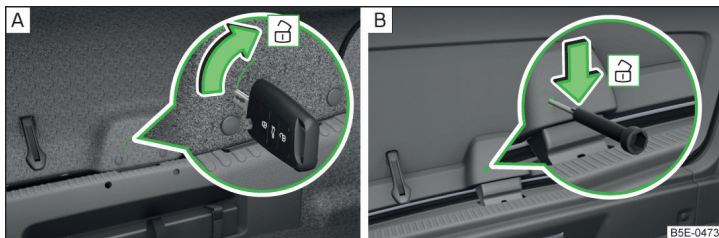

Fig. 215 Emergency unlocking: Version 1/version 2
- Insert the vehicle key or similar tool into the opening in the panel » Fig. 215-**A** to the stop.
- Insert a screwdriver or similar tool into the opening in the trim » Fig. 215 - **B** as far as the stop.